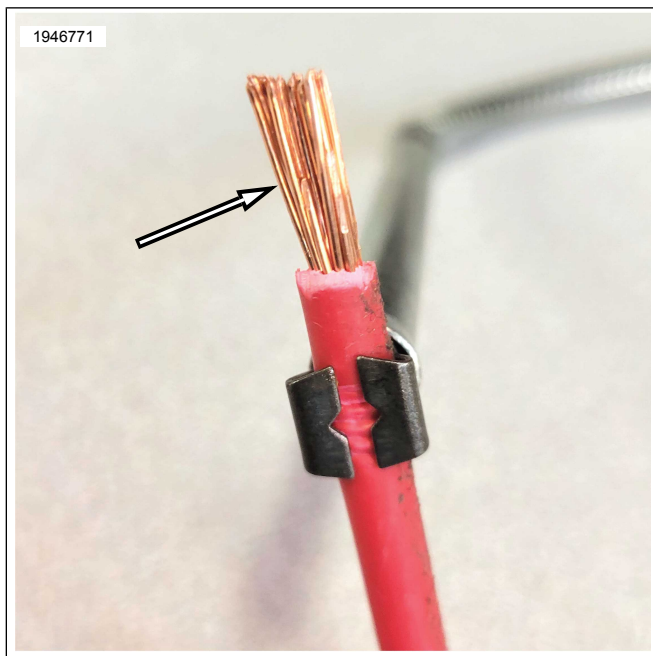

Figure 13. Exposed Wire
9. See Figure 13 - Figure 21. Solder in place Direct Current (DC) lead from Recall kit (Part No. 69203711).
- a. See Figure 13. Make sure proper length of wire is exposed.